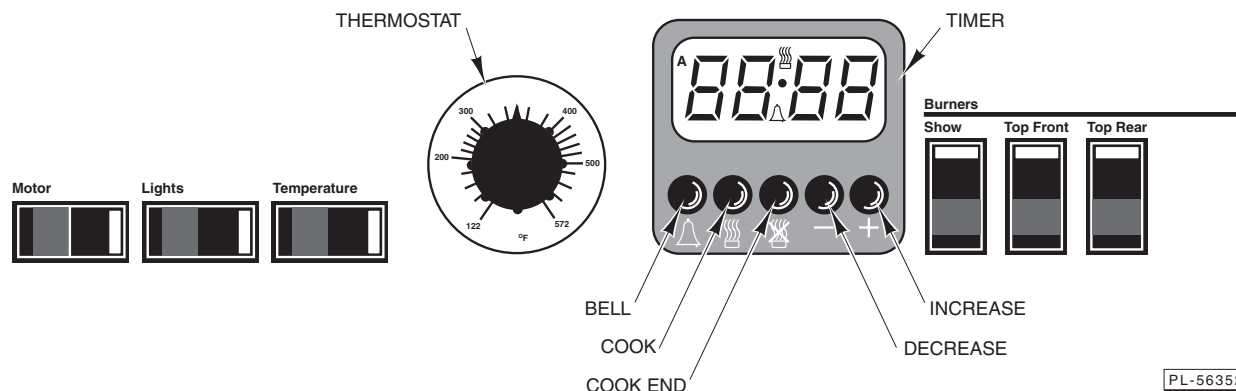

Fig. 15
- The beeper has three volumes and can be set by pushing and releasing the – and + buttons at the same time. Ensure that the beeper is audible (Fig.15).
- Turn on lights switch (Fig. 15).
- Turn the motor switch on (Fig. 15).
- Turn show burner switch on (Fig. 15).